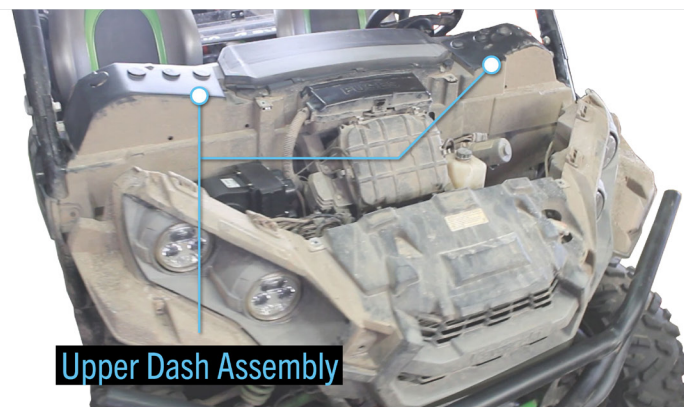

FIGURE 2
4. Remove the plastic rivets and screws holding the upper dash assembly in place then lift the upper dash assembly away as shown in **FIGURE 2**. It will be tethered by the cables going to the fuse box.